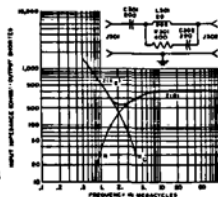

Figure 4-3. Dummy Load Impedance Curve
11. USE OF ELECTRICAL DUMMY LOAD DA-109/URM-25F. (See figure 4-3.)
c. It can be seen from figure 4-3 that the minimum impedance of the dummy load will be approximately 200 ohms at 2 megacycles. This impedance becomes much higher at lower frequencies and approaches 400 ohms at higher frequencies. When using the dummy load, it should be noticed that a 20 percent maximum error may be introduced into the meter (M101) readings at 2 megacycles. If greater meter accuracy is required, the actual impedance of the dummy load should be determined from figure 4-3 at the frequency selected. For example, if the output frequency of the signal generator is 20 megacycles, it can be seen from figure 4-3 that the meter impedance of the dummy load is approximately 400 ohms resistive. A meter indication of 10,000 microvolts then represents the input voltage on the dummy load.
e. For an accurate indication of the receiver output voltage, the impedance of the dummy load in series with the impedance of the equipment under test should not be less than 100 ohms. From figure 4-3 it is apparent that the accuracy will be sufficiently good at frequencies above 5 megacycles. Below 5 megacycles, dummy load impedance falls approximately 200 ohms, to main-